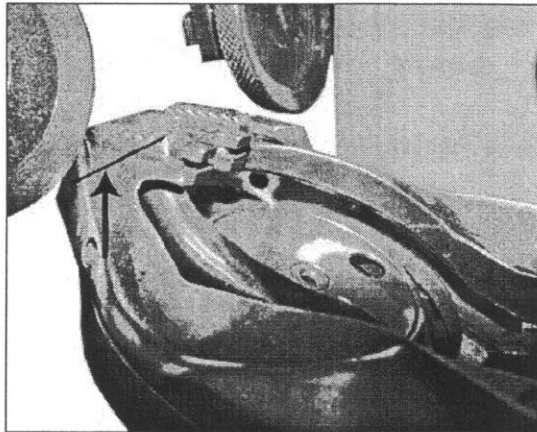
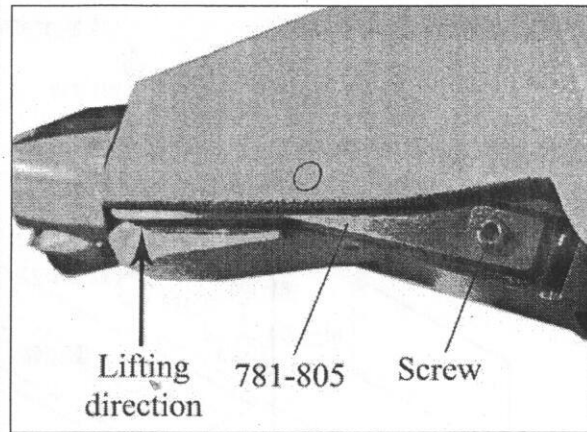

Fig.15
Fig.16
4.5 Adjusting the height of claws (Fig.15、 Fig.16)
- Turn the pulley in the correct direction, till the claws come to its highest position. (Fig.15)
- Loosen the screw on the claw lifting lever (781-805) as shown in Fig.16.
- Lift the end of claw lifting lever (781-805) follow the arrow as shown in Fig.16, till the height of claw is suitable.